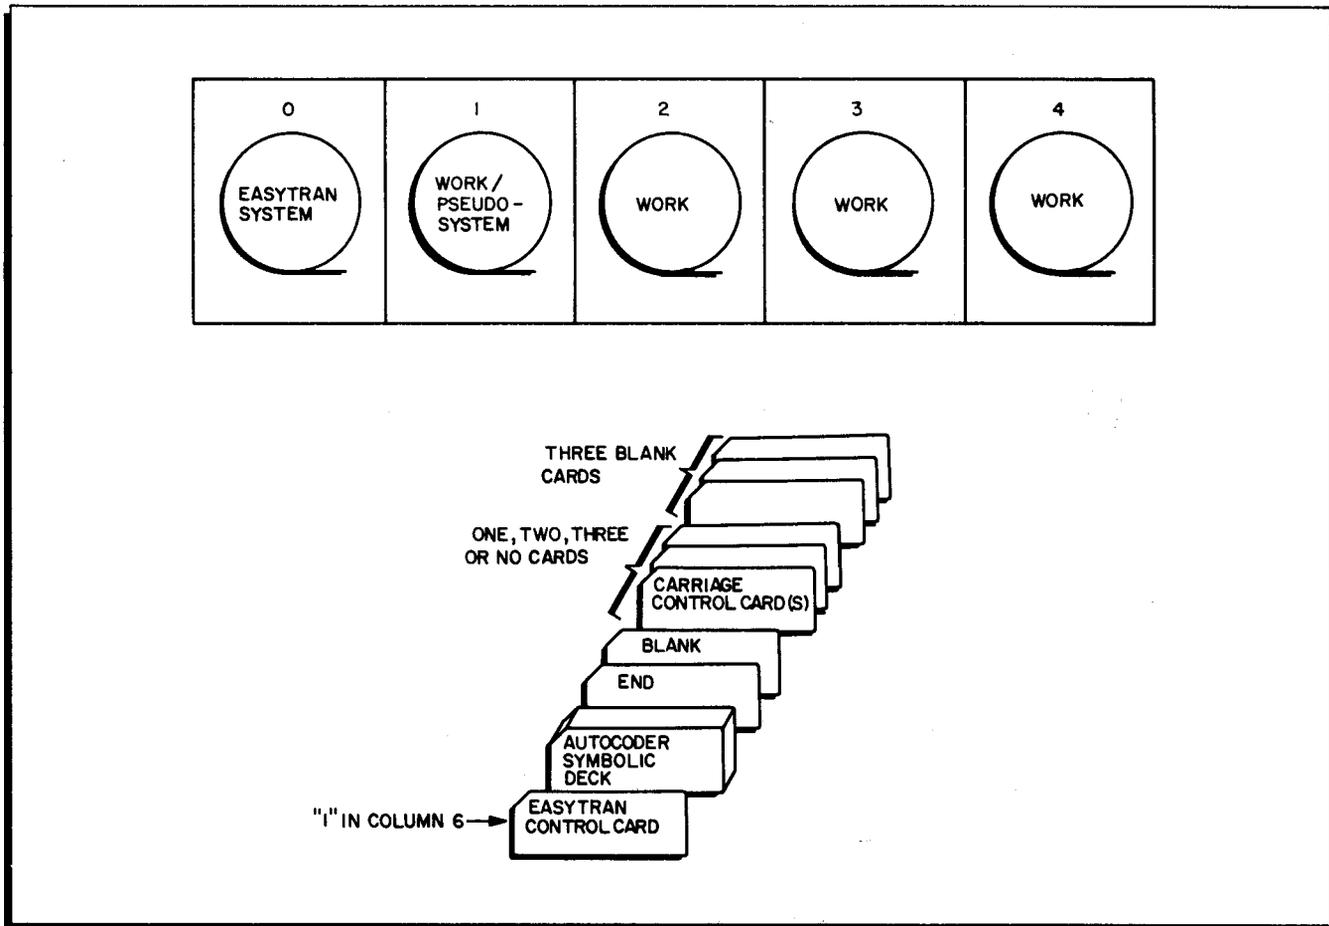

Figure 9. Five-Tape System — Tape Manipulation and Card Input for Autocoder Conversion from Cards
Five-Tape System: Autocoder Conversion from Cards (Figure 9)
1. Make up the Easytran load deck as shown in Figure 9; load the card reader.